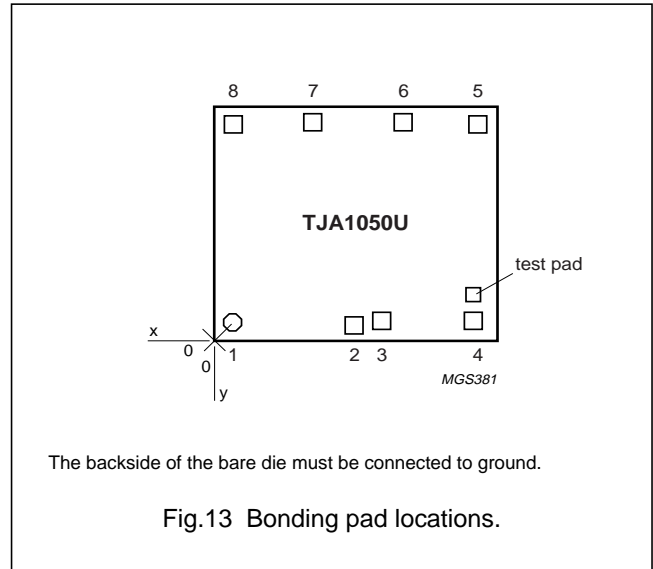

Fig.13 Bonding pad locations.
1. All x/y coordinates represent the position of the centre of each pad (in μm) with respect to the lefthand bottom corner of the top aluminium layer (see Fig.13).